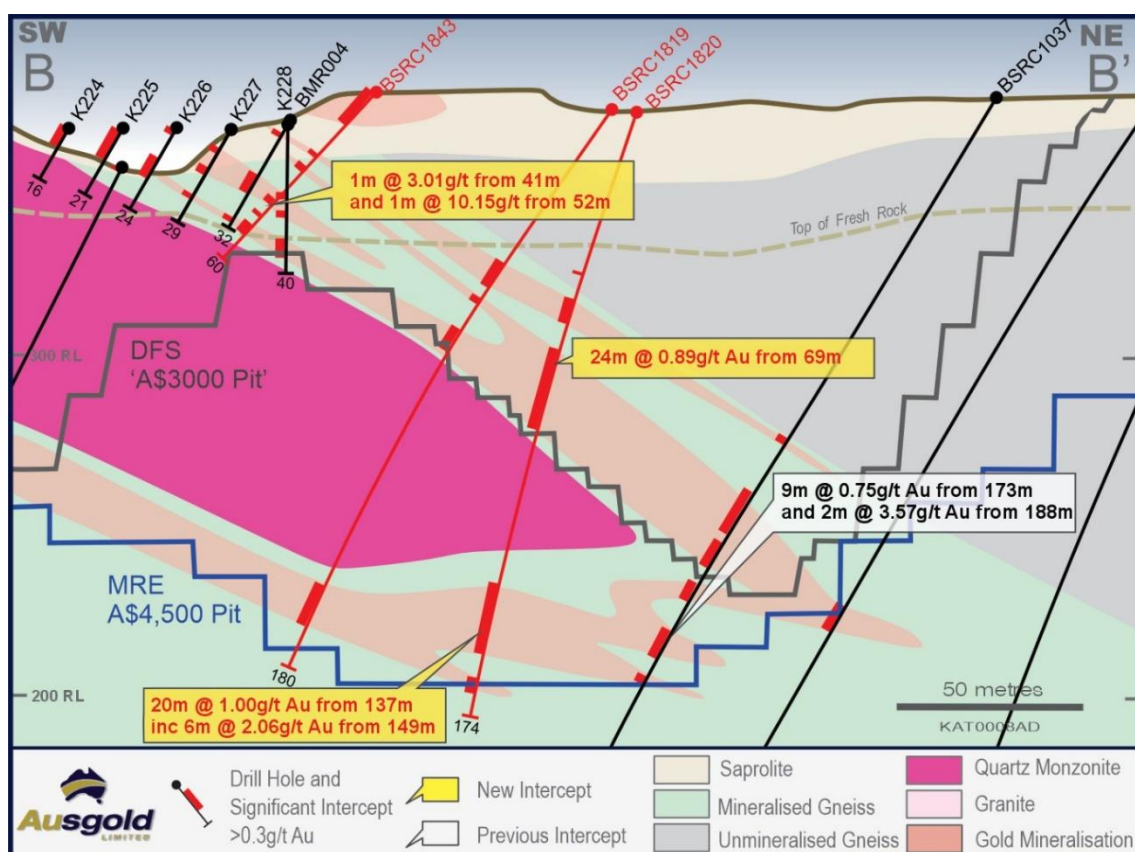

Figure 4 – Cross-section B-B' across the Jinkas -White Dam Lodes with Resource Drilling and Pits
- **24m @ 0.89g/t Au from 69m in BSRC1820 including 1m @ 1.46g/t Au from 77m, 1m @ 9.01g/t Au from 82m and 1m @ 1.35g/t Au from 91m in BSRC1820 – Figure 4.**
- **20m @ 1.00g/t Au from 137m in BSRC1820 including 3m @ 1.25g/t Au from 138m and 6m @ 2.06g/t Au from 149m – Figure 4.**